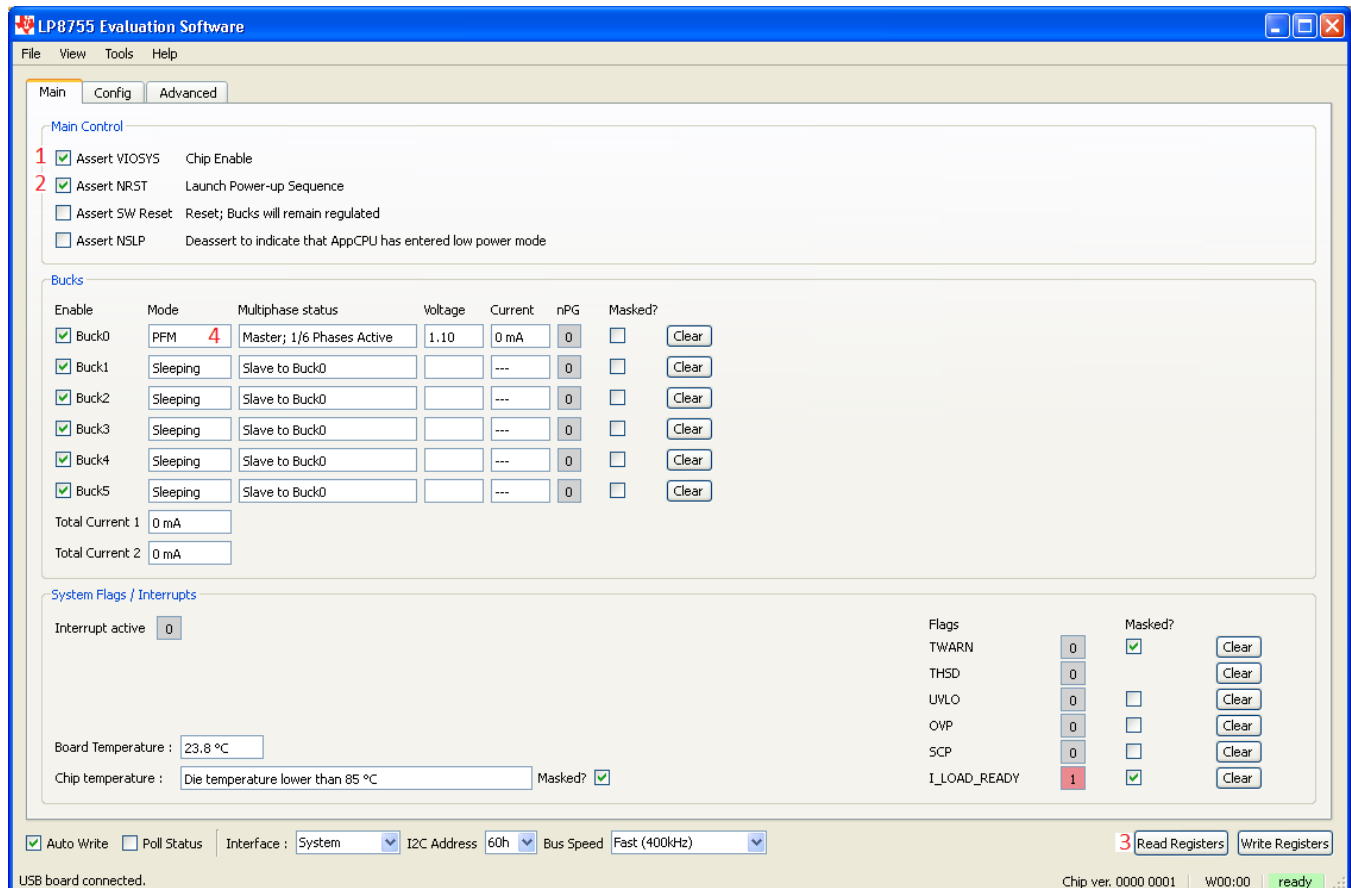

Figure 3. Evaluation Software GUI Showing Steps Needed to Power up the LP8755
1. On Evaluation software GUI, click on Assert VIOSYS. See Figure 3: Marking “1”.
2. Click on Assert NRST. See Figure 3: Marking “2”.
3. Click on Read Registers button. You should see ready message on green background next to the Read Registers button. See Figure 3: Marking “3”.
4. Check that the GUI indicates "PFM" under "Mode" and "Master; 1/6 Phases Active" under "Multiphase status". See Figure 3: Marking “4”. The EVM is now ready for testing with default register settings loaded.